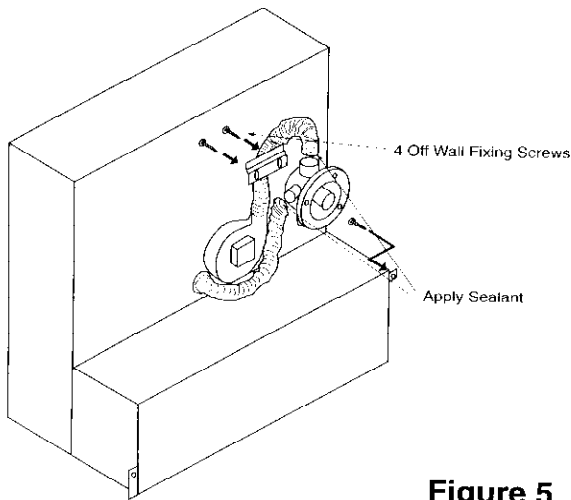

Figure 5
- 7.25 Hold the upper restraining bracket centrally and approximately 2mm below the line marked in 7.23 as shown in Fig. 5 and mark the positions for the two fixing holes.